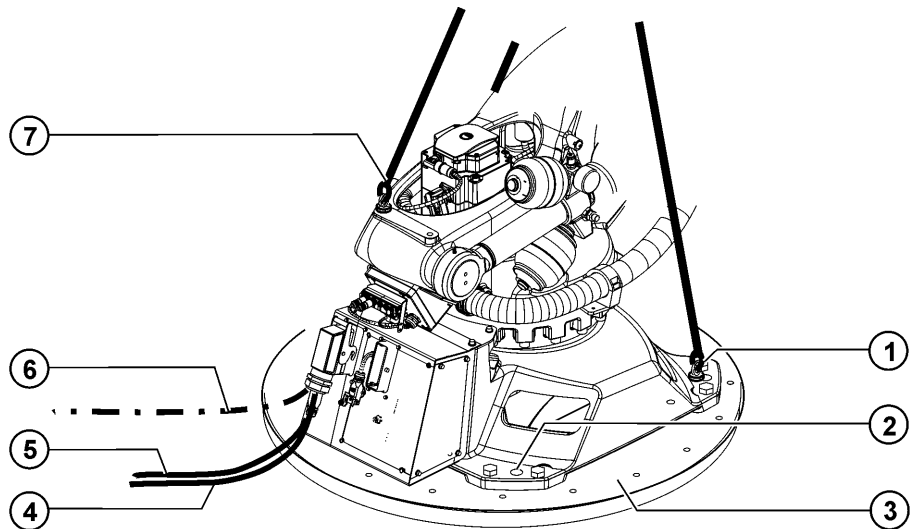

Fig. 12-2: Removing the robot
4. Secure the robot by activating the E-STOP device and then shut down the robot (>>> Fig. 12-2).